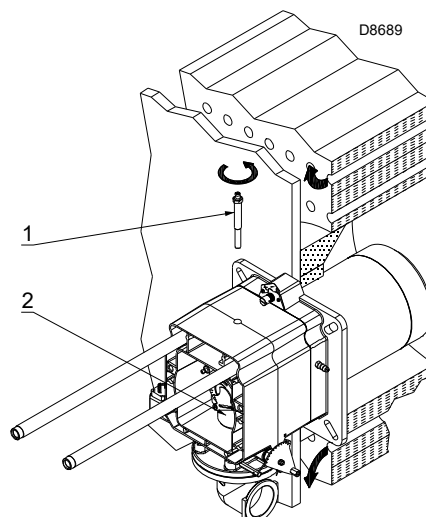

Fig. 12
- remove screw 1)(Fig. 12);
- withdraw the internal part 2)(Fig. 12) of the head and adjust their settings.